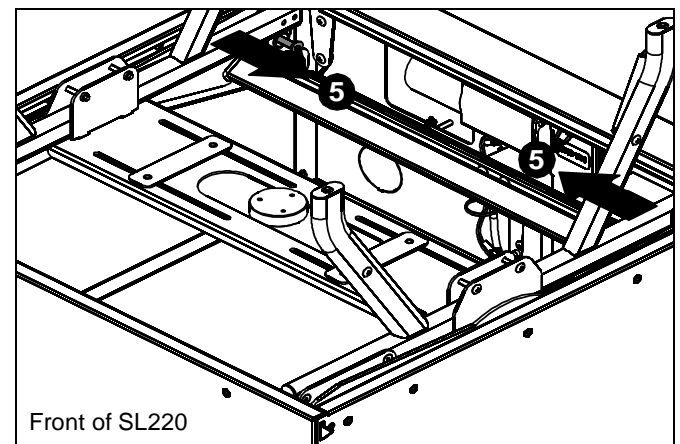

Figure 3
5. Gently pull projector cradle away from sides at rear of SL220. (See Figure 3)